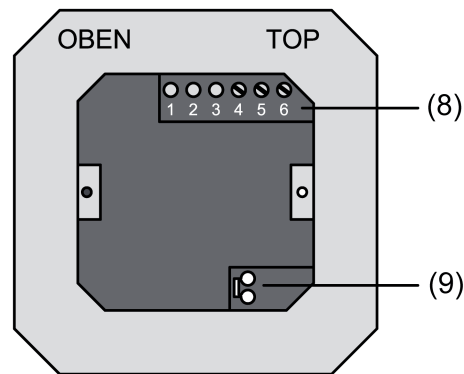

Figure 3: Device connection terminal insert with connections
- (8) Connecting strip binary inputs
- (9) KNX connection
- Insert the stripped bus line into the device connection terminal (9) in the device connection terminal insert (figure 3)